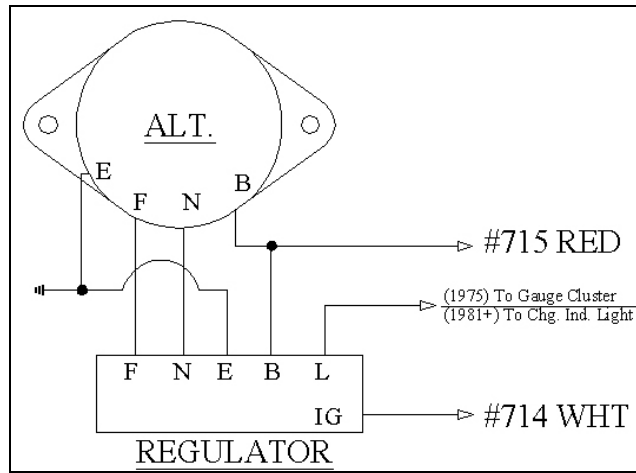

Figure 8-3 Toyota Alt. Diagram (1975, 1981+)
8.3 Toyota Alternator (1975, 1981+) See Figure 8-3
*Note: Your Alternator may not appear exactly as represented in **Figure 8-3**. The circuits are wired the same way, though.*